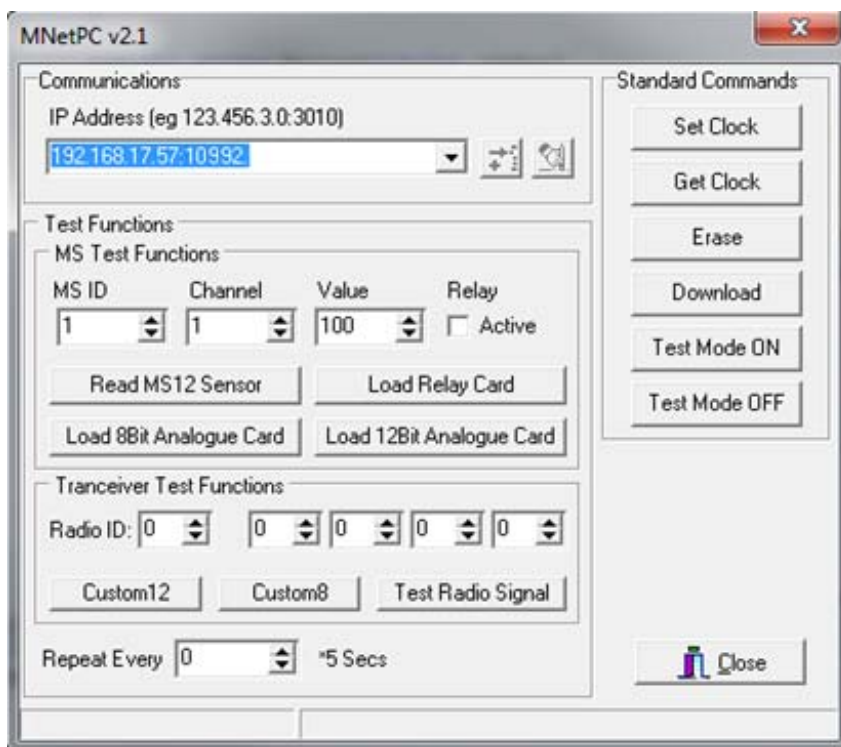

Figure 16
- A window similar to that shown in Figure 16 below is displayed, from where the System Administrator can initialise and debug SR2 operation.
- Use the **IP Address** drop-down, (see Figure 16 above), to select the required SR2 by IP address; then click **Set Clock** to set the SR2 clock.